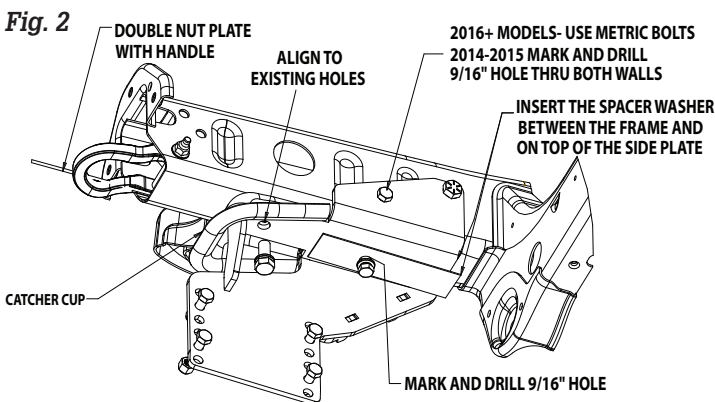

Fig. 2
7. Mark and drill the bottom hole with 9/16" drill bit. Be careful not to drill through the nut plate inside the frame. It is necessary to remove the double-nut plate prior to drilling. Mark and drill the upper hole with the 9/16" drill bit as well. Reinstall the side plate and secure them with proper fasteners provided. **See Fig. 2.**